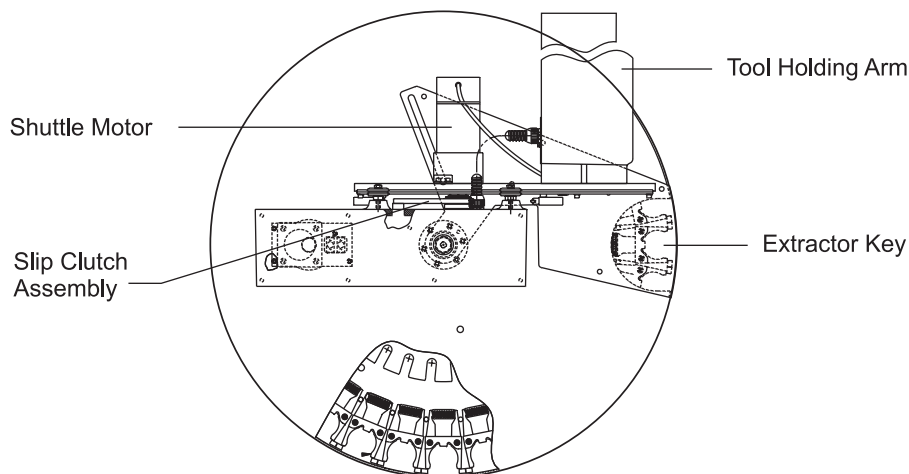

Figure 3.11-3 Automatic Tool Changer - Mechanical Assembly (Top View)
5. Loosen the set screw that secures the slip clutch assembly to the shuttle motor (see Fig. 3.11-3).
6. Using a small two-jaw puller, pull the slip clutch assembly (see Fig. 3.11-3) off the shuttle motor shaft.